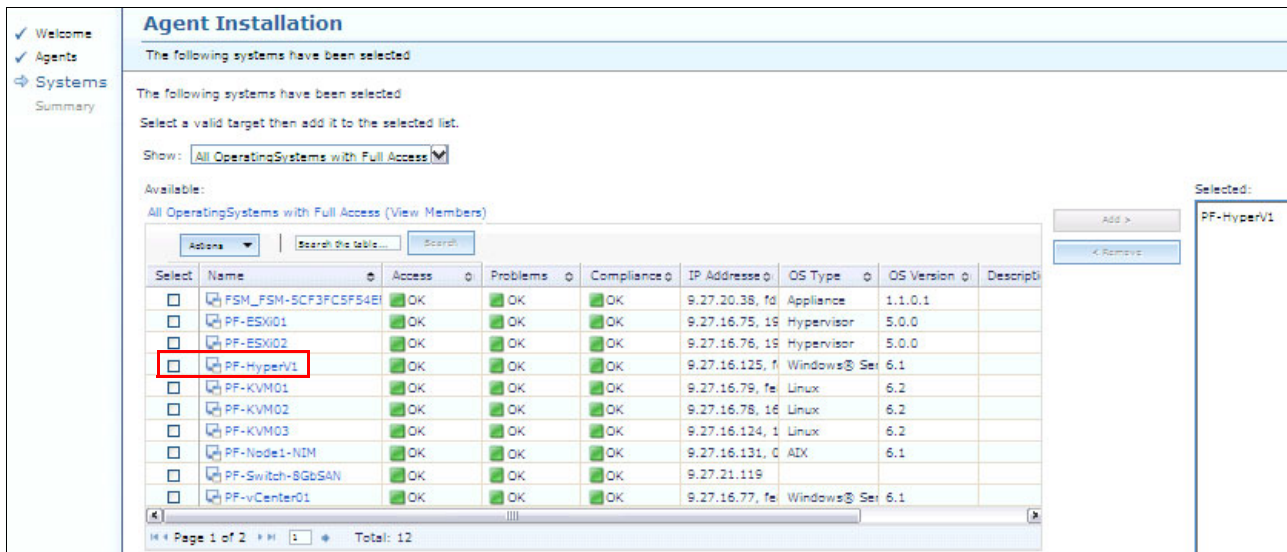

Figure 12-11 Agent Installation: Target selection
- Select your Hyper-V host as shown in Figure 12-11. Click **Add**, and then click **Next**.